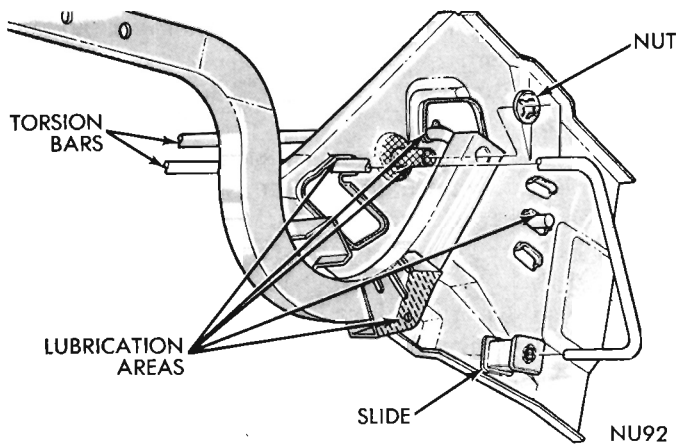

Fig. 42 - Deck Lid Torsion Bar
- (1) Remove deck lid assembly and disengage torsion bar from hinge (Fig. 42) being removed.
- (2) Remove hinge to hinge bracket spring nut and remove hinge.
- (1) Remove torsion bar (Fig. 42) from adjustment slot.
- (2) Push bar out of roller in hinge arm and remove from hinge support.